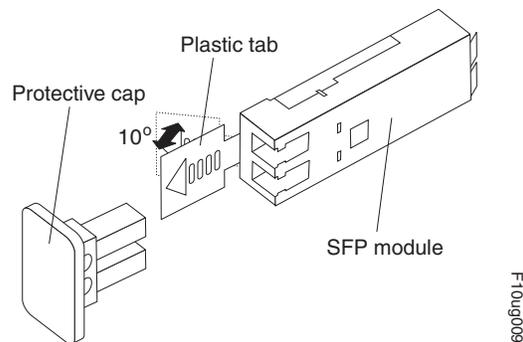

Figure 83. Unlocking the SFP module latch - plastic variety
- For SFP modules that contain plastic tabs, unlock the SFP module latch by pulling the plastic tab outward 10°, as shown in Figure 83.